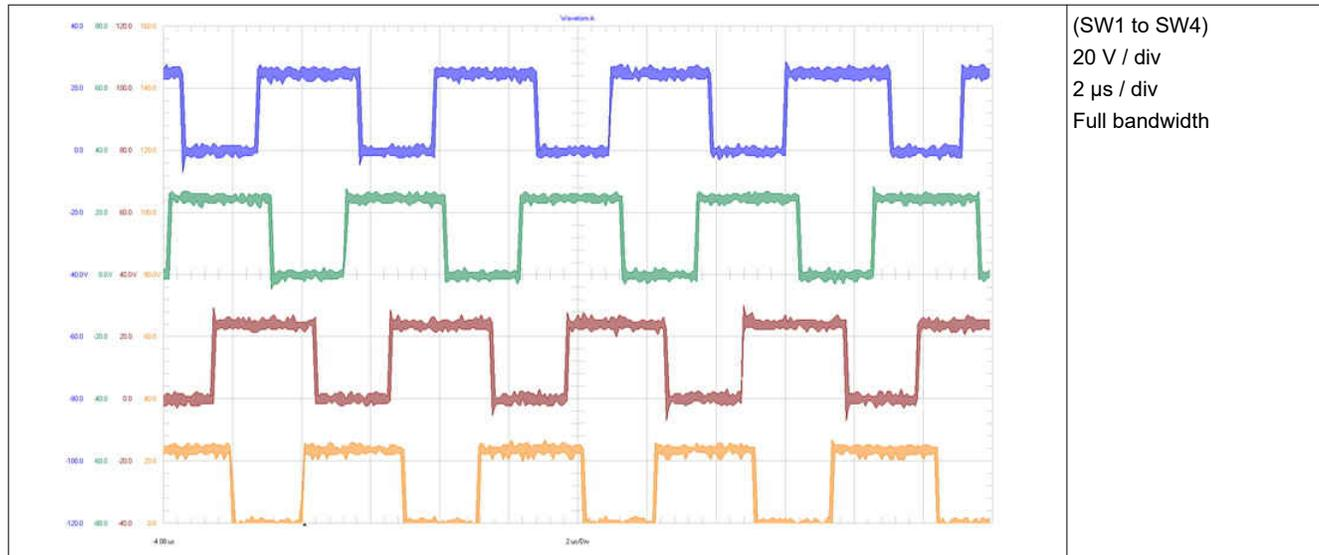

Figure 3-1. Four Switching Phases at 0, 90, 180, 270 Degrees Phase Shift at 24 V_{IN}
(1) The background color in the table cells correspond to the waveform colors in Figure 3-1.
Figure 3-1 highlights the four phase interleaved operation of the two stacked controllers in primary and secondary configuration. Four phase interleaved operation results in **ripple rejection at 25%, 50% and 75% duty cycle**.